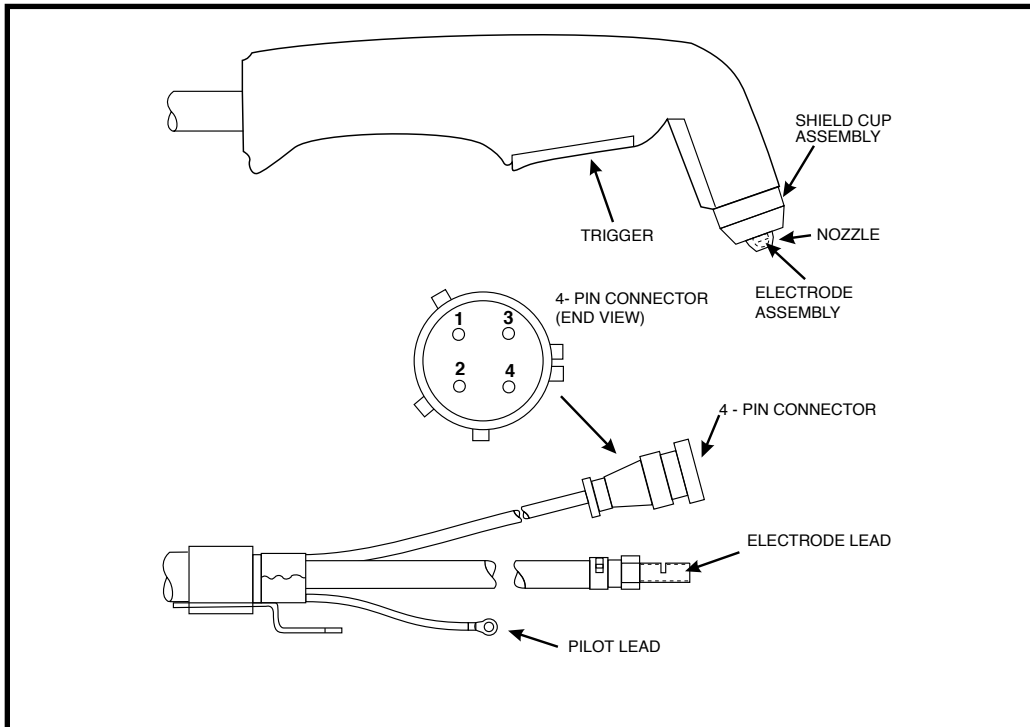

FIGURE F.4 - Torch and Cable Resistance Test Points
- 6. Perform the following resistance tests using a volt/ohm meter (Multimeter). See Figures F.4. and F.5 for Torch and Cable Resistance Tests Points and Circuit Diagram.